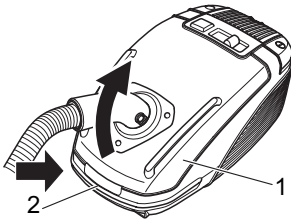

Fig. 17
1. Press the release button (Fig. 17/2) and open the dust chamber cover (Fig. 17/1).